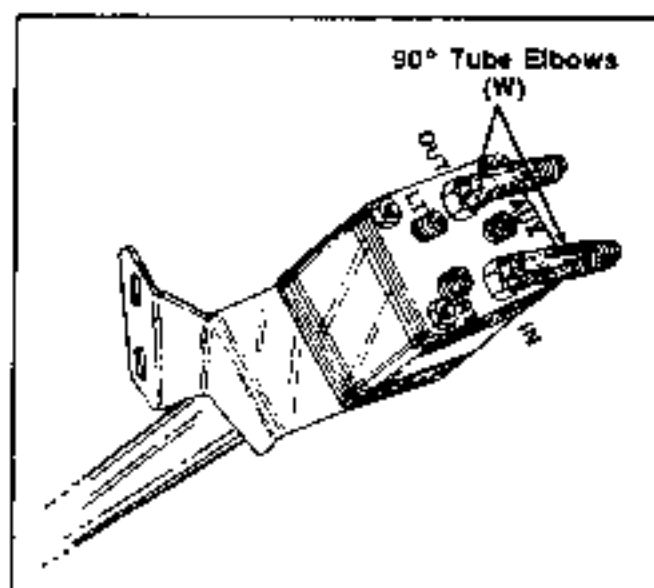

FIGURE 15.
- Assemble two 90° tube elbows male/female (W) to the ports marked "IN" and "OUT" on bottom of steering column assembly as shown in figure 15. Tighten securely at this time.